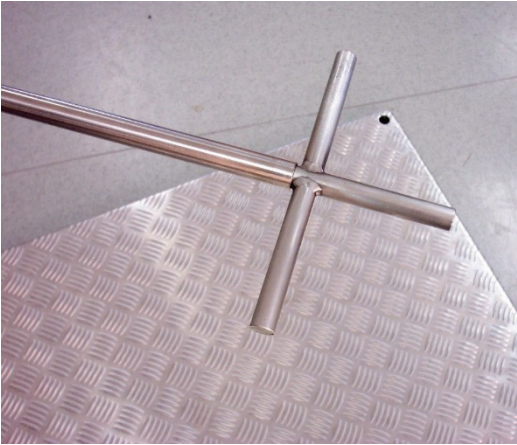
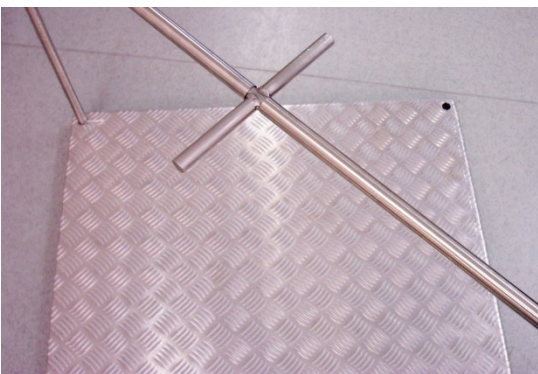

Figure 4
Figure 5
- d. Continue with the second bar on the oposite side of the scale platform as shown in Figure 4 and Figure 5.